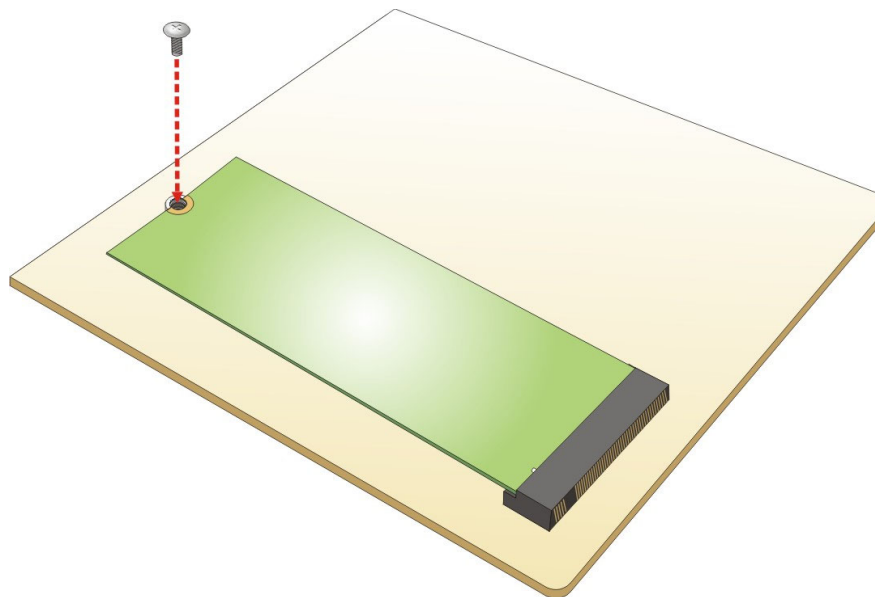

Figure 4-4: Securing the M.2 Module
Step 4: Push the M.2 module down and secure it with the previously removed retention screw (**Figure 4-4**).